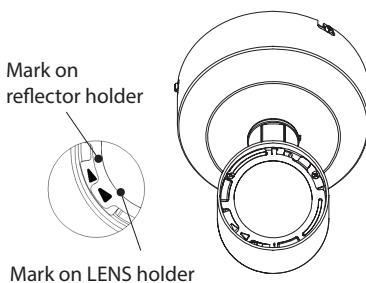

Fig 8
Step 4: Align the triangle mark on the lens holder to the one on the reflector holder, then rotate clockwise to lock it. (See Fig 8)